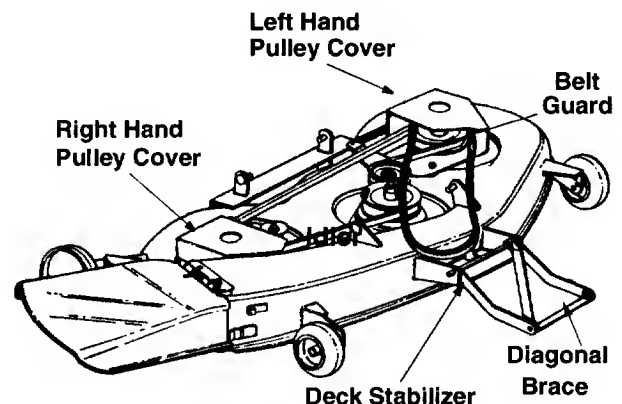

Figure 30
2. Remove the left hand pulley cover by unhooking the spring and removing five self-tapping screws. See Figure 30.